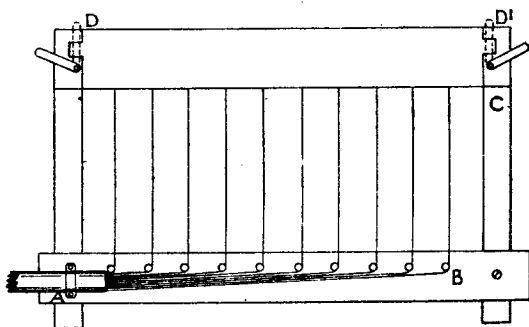

Fig. 6.
**Cable Forming or Lacing Board.**—This is illustrated in Fig. 6. It is a stout frame of wood used for the purpose of lacing cable wiring for switchboard jacks. *A* is a button or clamp holding the cable firmly in position while being formed. *B* is a row of ten pins spaced along the frame round which, as shown, one pair or one set of wires is bent at right-angles to the cable. *C* is a sliding section of the frame which can be adjusted to